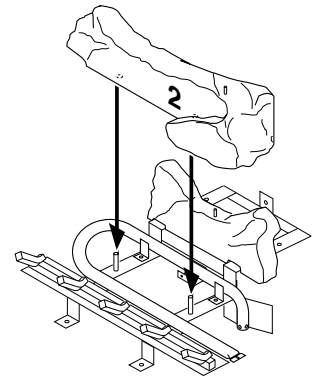

Figure 19 - Installing Log #2, Models CD32M/CD36M-A Series
2. Place log #2 (large front log) over pins on grate (see Figure 19).